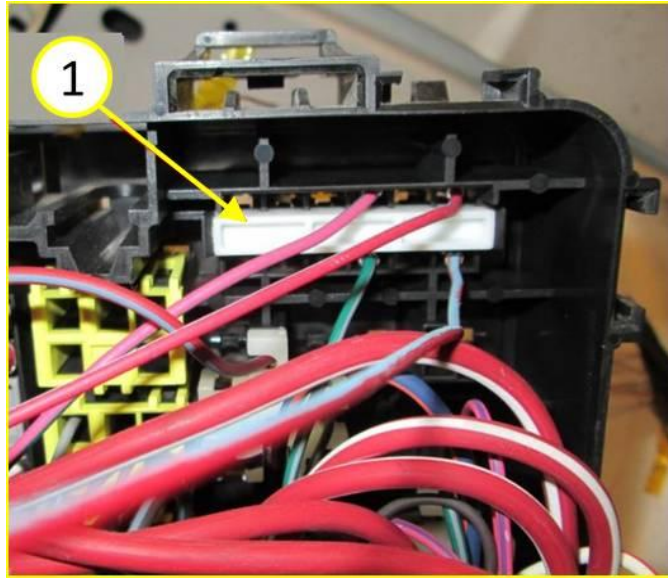

Fig. 4 New Lock Installed
11. Install the NEW white plastic terminal lock provided in the repair kit, see (Fig. 4).